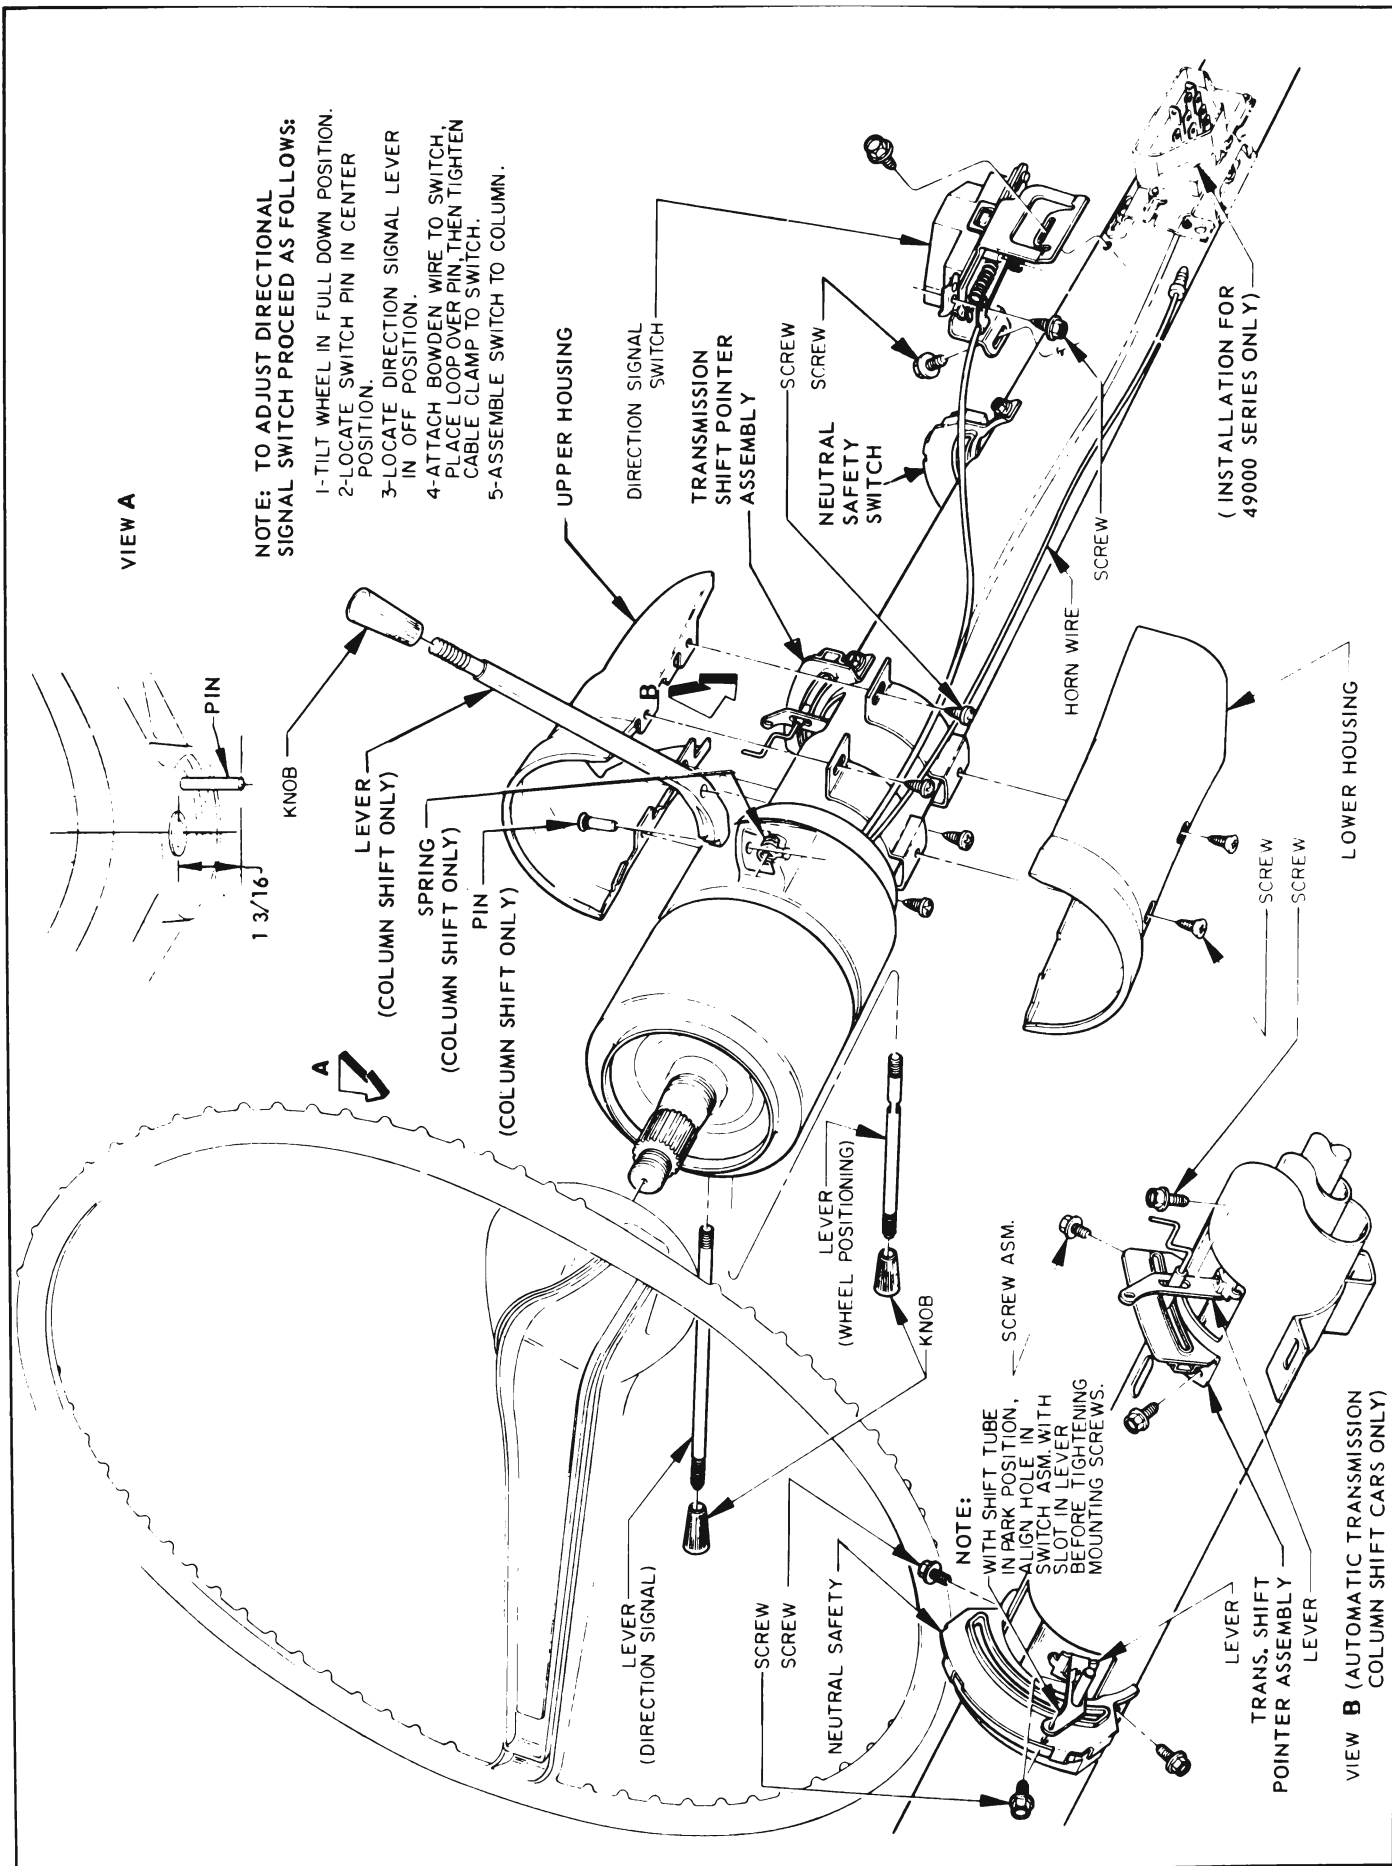

Figure 8-87—Automatic Transmission Tilt Steering Column - 45000, 46000, 48000 & 49000 Series
20. On column shift steering columns only adjust neutral safety switch and transmission pointer assembly (see Figure 8-87).